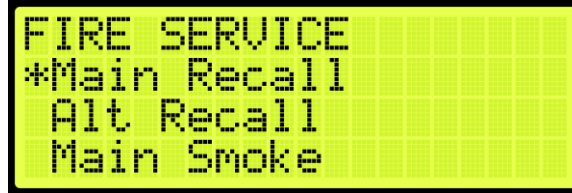

Figure 559: FIRE SERVICE Menu – Main Recall
2. From the FIRE SERVICE menu, scroll and select Main Recall (See Figure 559).